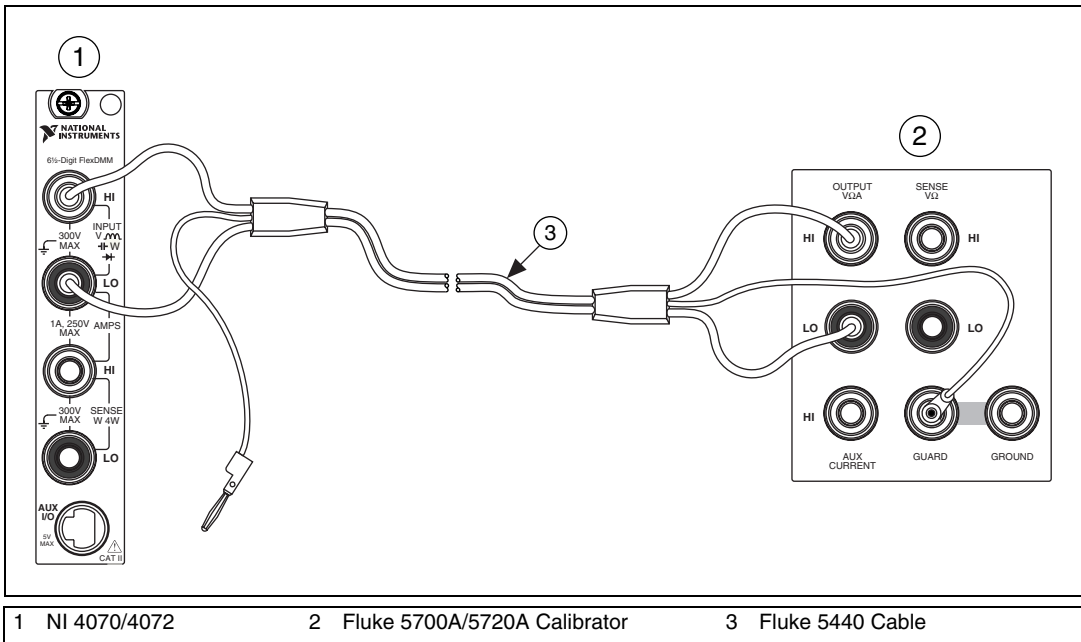

Figure 3. Cable Connections for Voltage and 2-Wire Resistance
22. Fasten the connectors on one end of the Fluke 5440 cable to the appropriate banana plug connectors of the NI 4070/4072, and fasten the connectors on the other end of the cable to the appropriate calibrator binding posts. Figure 3 shows the correct connections. Table 2 lists the cable connections.